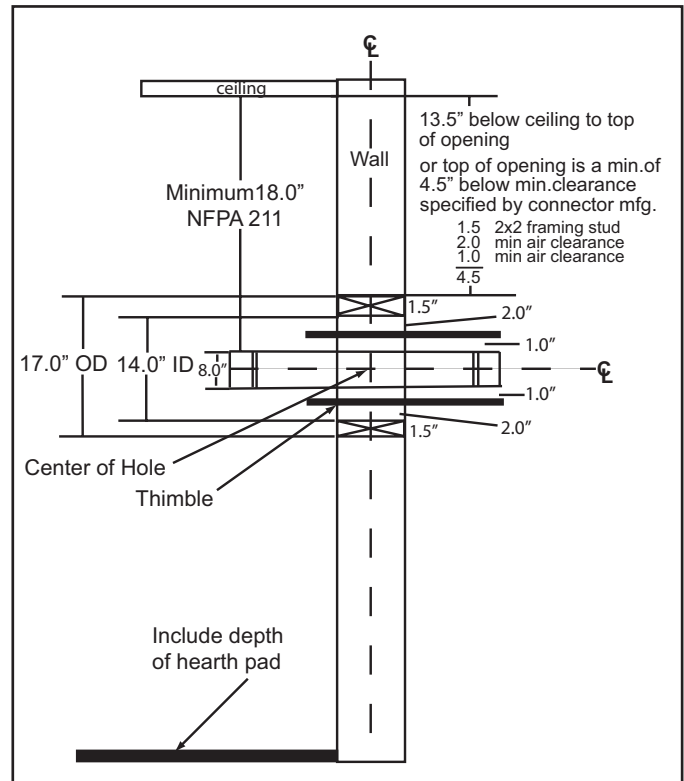

Figure 19.1
- Top of wall opening is a minimum of 13-1/2 inches (343mm) from ceiling or 4-1/2 inches (114mm) below minimum clearance specified by chimney connector manufacturer. NFPA 211 minimum vertical clearance of 18 inches (457mm) from chimney connector and ceiling or minimum recommended by chimney connector manufacturer. **Figure 19.1.**
1. Open inside wall at proper height for the chimney connector to entry the masonry chimney. **Figure 19.1**
3. Construct a 17 inch x 17 inch (432mm x 432mm) outside dimension frame from 2 x 2 framing lumber to fit into wall opening. Inside opening of frame should be no less than 14 inch x 14 inch (356mm x 356mm). **Figure 19.1.**